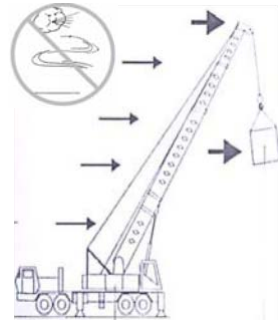

Fig. 11
- ⌚ Be aware that for relatively large, light loads, there is a risk that the load will be blown about by the wind. (see Fig. 11)